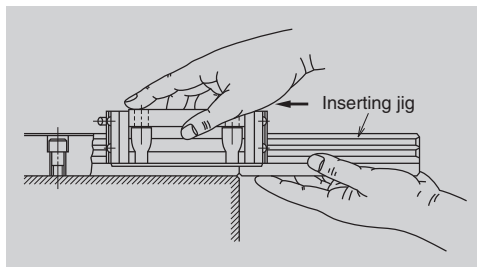

Fig. 9.27
- If it is unavoidable to remove slides from the rail, make certain to use a provisional rail (a jig used to insert a slide to the rail) as shown in Fig. 9.27.